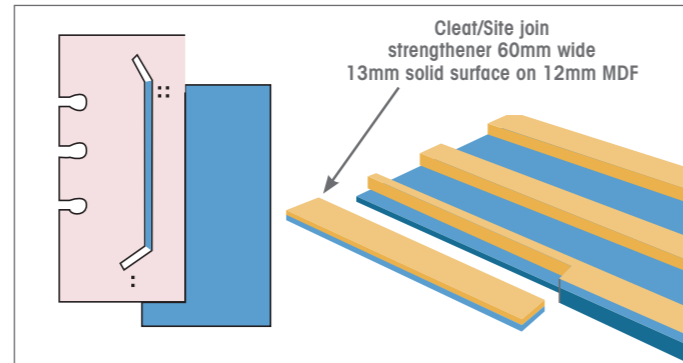

Fig. 7 Female Masons Mitre Join section & Underside of Female Mason's Mitre after routing
- Align the mason's mitre template and clamp in position (see Fig. 7).